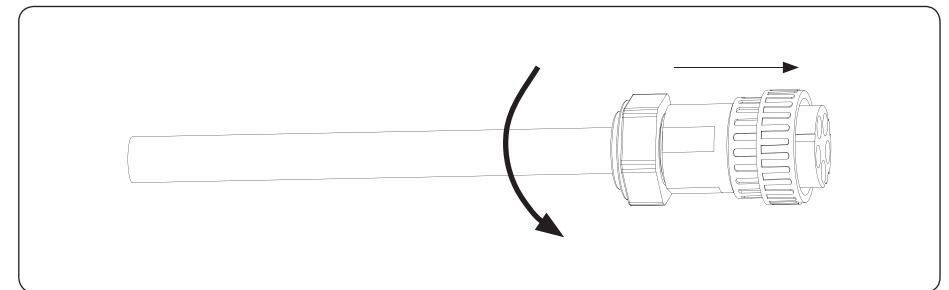

Figure 4-17
4) According to the arrow direction to push the threaded sleeve to make it connected with the AC terminal head and then rotate the cable gland clockwise to lock it, as shown in figure 4-17: